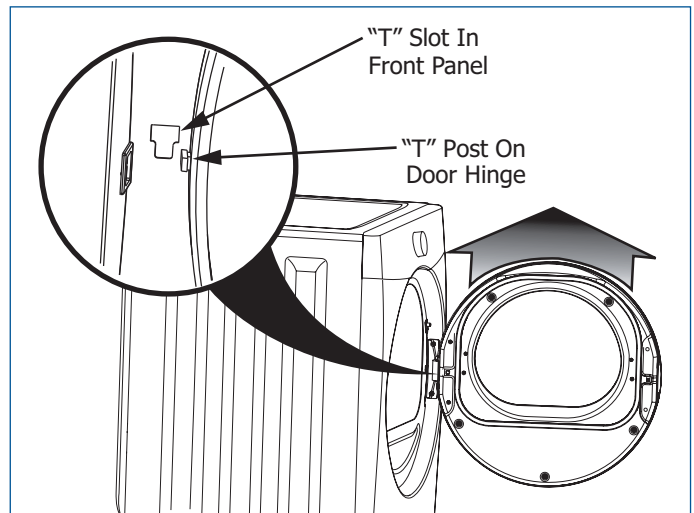

Figure 2-18.
3. Supporting door with both hands, squarely lift door and hinge upward approximately 3/8" (10 mm) so "T" post on back of hinge can slide out through "T" slot on front panel. (See Figure 2-18)